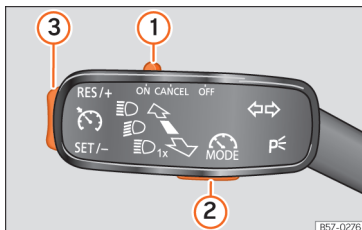

Fig. 228 On the left of the steering column: control and buttons to operate the speed limiter.
If you wish to temporarily switch off the speed limiter, e.g. to overtake, move control »» Fig. 228 ① of the turn signal lever into position **CANCEL** or the third lever into pressure point **CANCEL** or press button ② on any lever.